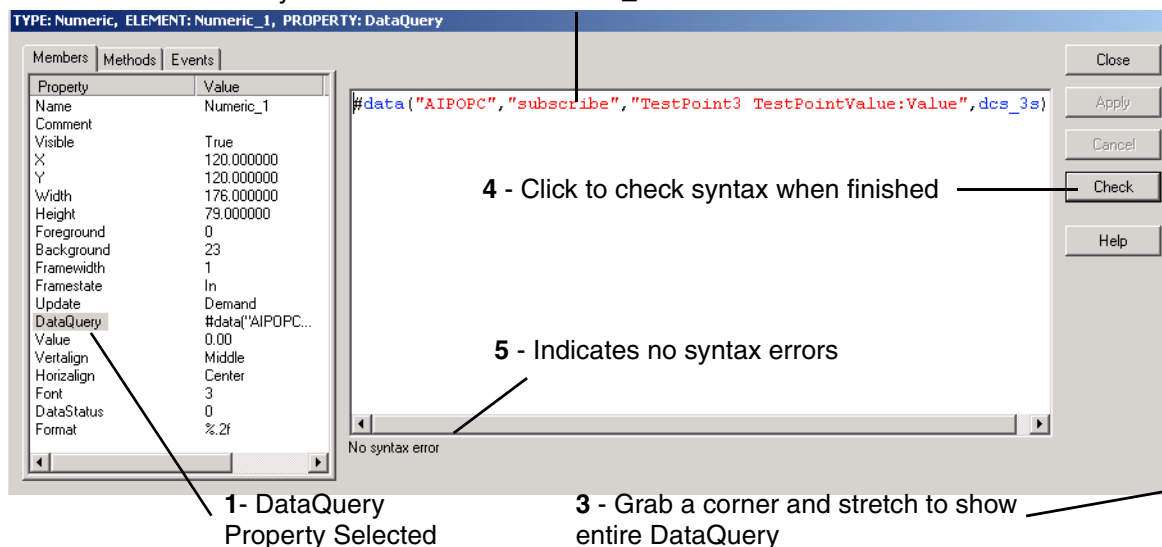

Figure 21. Numeric_1 DataQuery
This query will return the value of a specified aspect object property. The query must also specify which data provider will be used to retrieve the data, and the rate at which the object will be queried. To enter this query (reference Figure 21):
2. Click **Apply** to save the query, and then click **Check** to check the syntax. The result is indicated on the message line near the bottom of the dialog. In Figure 21, the syntax checker indicates no errors.